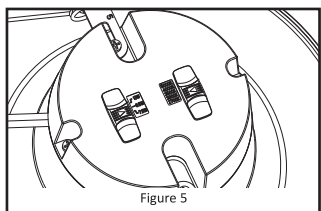
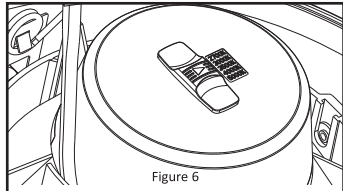

Figure 5
Figure 6
- If applicable, select the power and correlated color temperature by sliding the switch on the back of the trim to the desired setting. **See Figure 5 and Figure 6.**